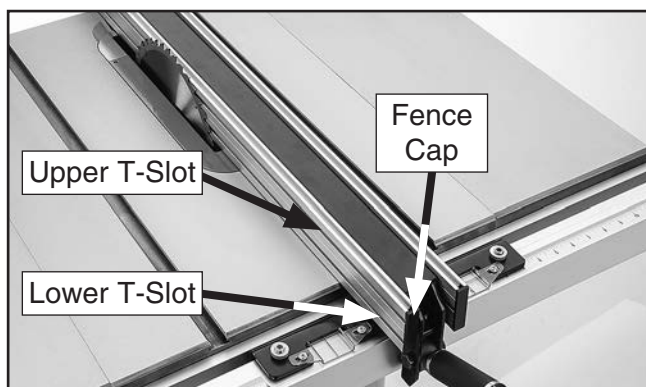

Figure 70. Auxiliary fence mounts on upper or lower T-slots of fence face.
1. Remove fence cap from fence face on which you will mount auxiliary fence (see **Figure 70**).